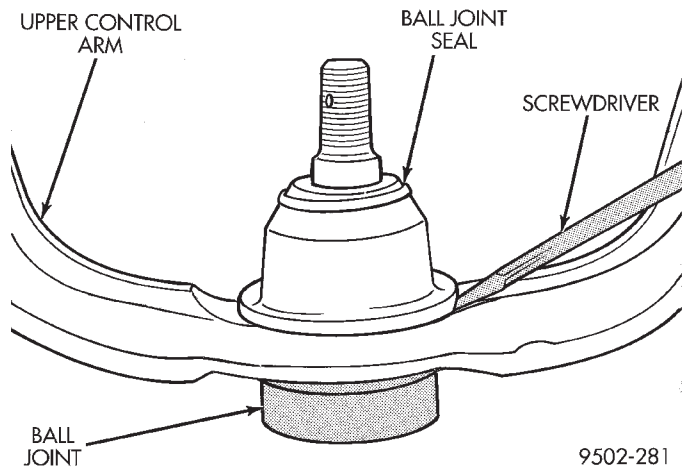

Fig. 30 Ball Joint Seal Boot Removal
(1) Using a screw driver or other suitable tool, pry seal boot up and off of ball joint assembly (Fig. 30).